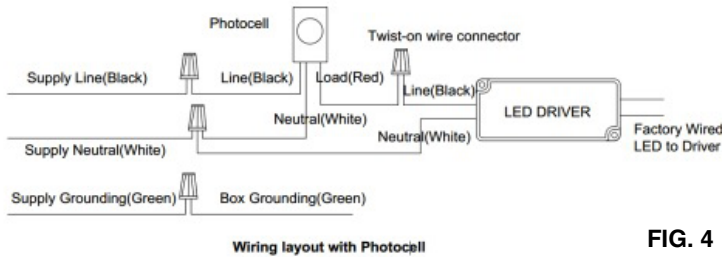
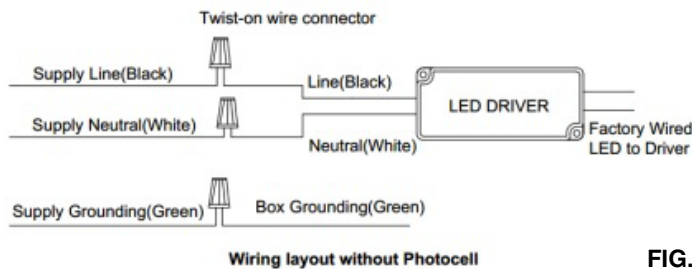
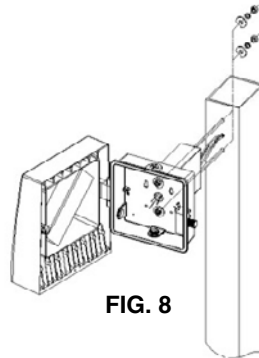

FIG. 4
FIG. 5
FIG. 8
2. Install the rear cover on the wall, connect the cable refer to the circuit diagram (FIG.4 and FIG.5)
2. Fix the screws to install the rear cover as per the diagram (FIG.8), Then connect the cable refer to the circuit diagram (FIG.4 and FIG.5).